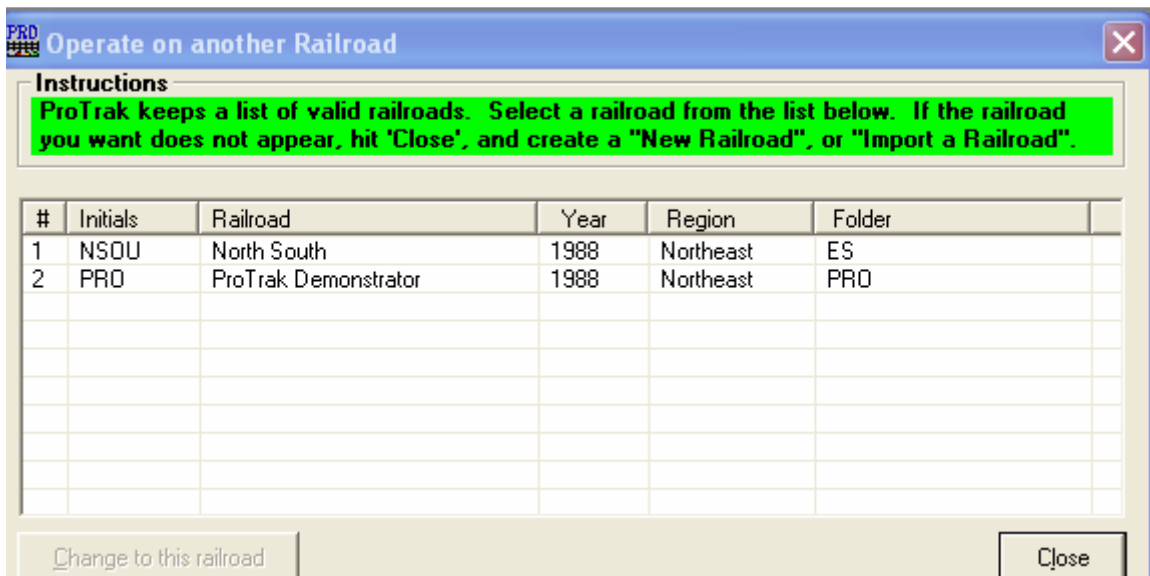

Figure 1-6
10. Once the changes have been made, click on "OK". At this point you will see that some action is taking place and a progress bar will be displayed at the bottom of the window. This is ProTrak copying files that will be used by your new railroad. Once all the files have been copied you will move on to the second window (see Figure 1-6) where you will select the Railroad you just created.